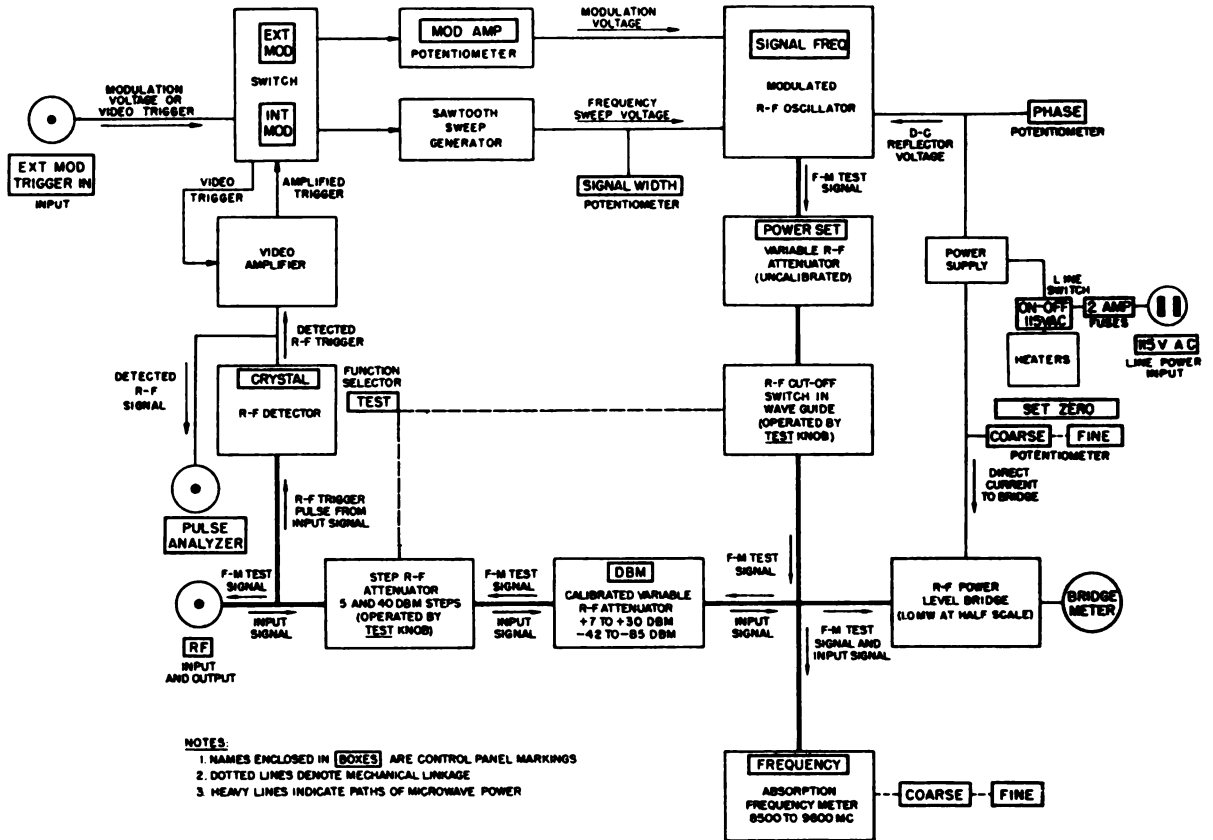

Figure 2-1. TS-147B/UP Radar Test Set.—Block Diagram
a. A block diagram of the Test Set is shown in figure 2-1. The test signals are generated by the test oscillator which is frequency modulated by the sawtooth voltage from the triggered sweep generator. The sweep generator is triggered in synchronism with the firing cycle of the radar system under test. This is accomplished either by means of voltage pulses connected to the EXT MOD-TRIGGER IN receptacle, or by microwave pulsed signals applied to the RF receptacle. These signals are detected and amplified by the detector crystal and video amplifier respectively.